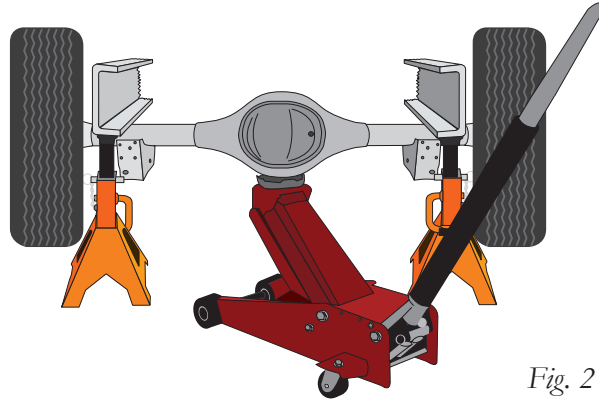

Fig. 2
1. Raise the vehicle and support the frame with safety stands, drop the axle down to make room for the air spring assemblies to be put into position between the frame and axle (Fig. 2).